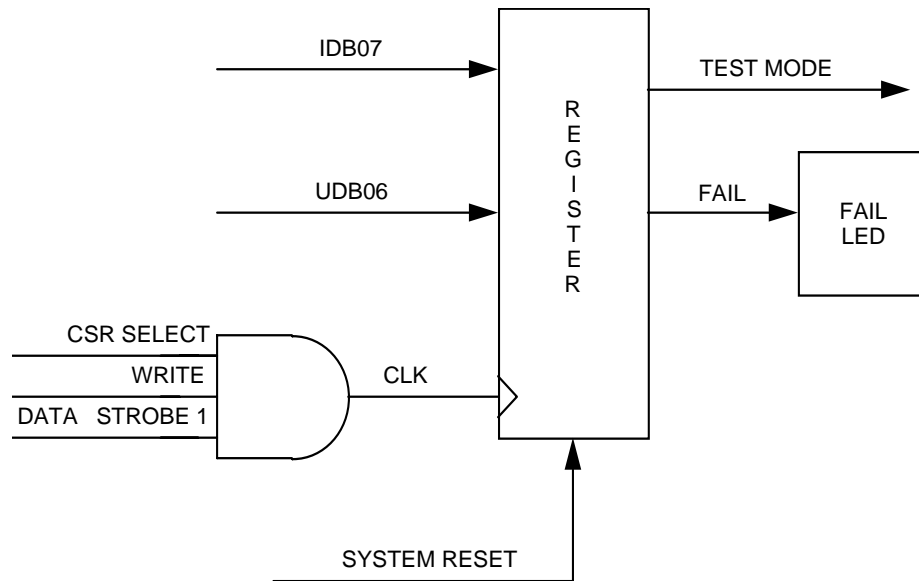

Figure 1-7 CSR Control Logic Block Diagram
The CSR is a *write only* register that controls the Test Mode (TM) bit (bit 7) and the front panel Fail LED (bit 6) as shown in Figure 1-7. The TM bit disables the output drivers to perform Built-in-Test functions. Both bits of the CSR are initialized active upon system reset such that the register outputs are disabled and the front panel LED is illuminated. Writing a "zero" to these bits will turn the LED OFF and enable the output drivers.